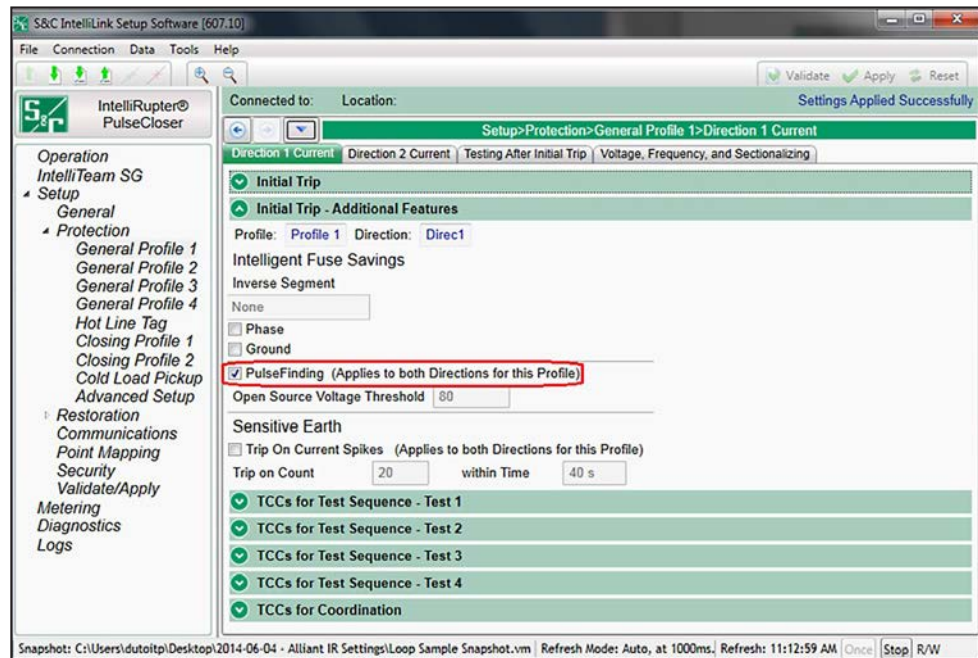

Figure 78. The PulseFinding technique setpoint on the *Setup>Protection>General Profile 1>Direction 1>Current>Initial Trip - Additional Features* screen.
STEP 6. Enable the PulseFinding technique so it can assist in cases where the devices may not be fully coordinated. See Figure 78.